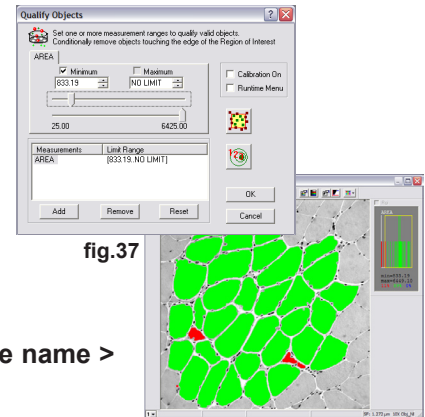

fig.37
8. Click on the **Qualify** icon. Reject unwanted objects by moving the top slider to 896 or until unwanted objects appear red (**fig.37**). Remove objects touching the edges. Click on the **ROI Edge Object** icon and select **Delete All Edge Objects** otherwise select **No Edge Applied**.